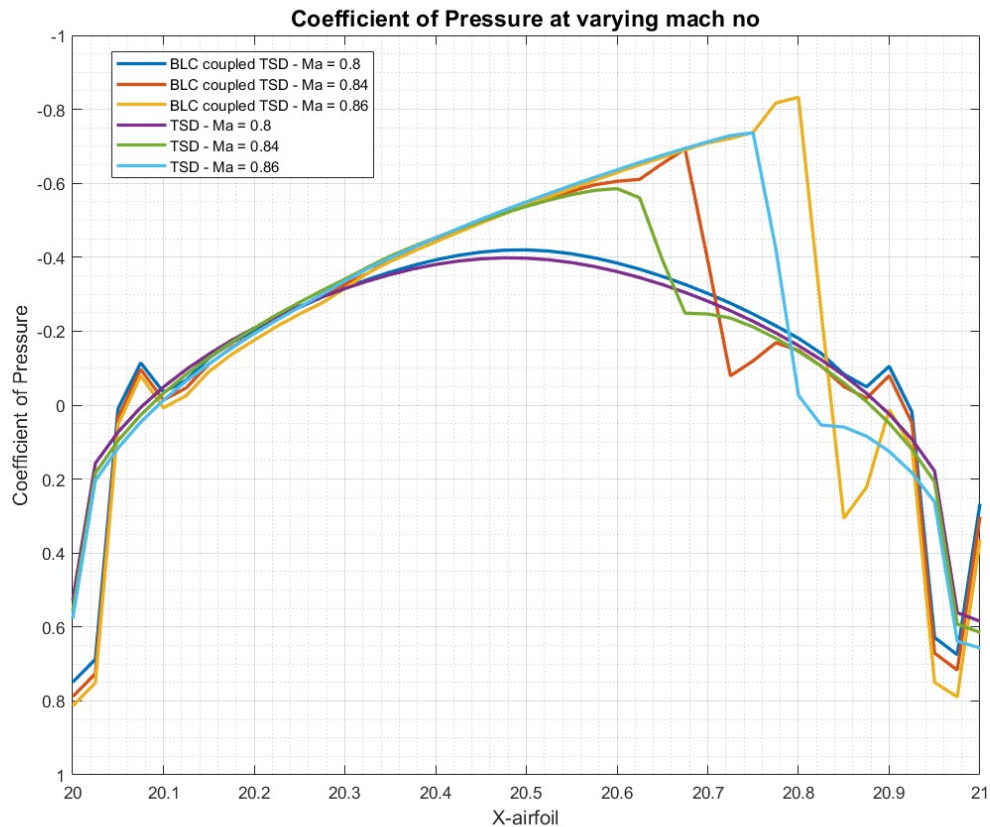

Fig:9 – Skin Friction Drag Coefficient plot at varying Mach no
- Fig 9 shows the Coefficient of Pressure distribution at different mach nos for both the TSD code and TSD coupled BLC.